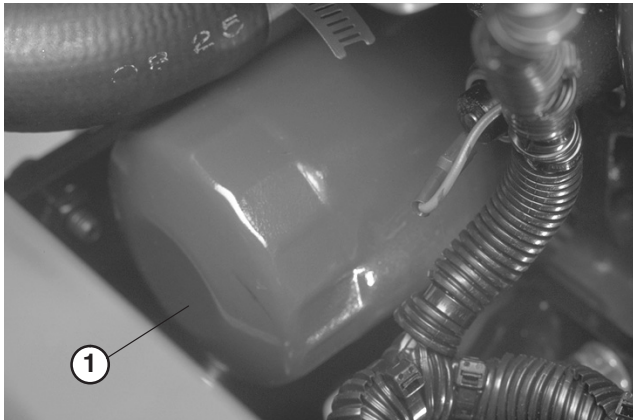

Figure 49
2. Remove oil filter (Fig. 49). Apply a light coat of clean oil to the new filter seal before screwing it on. **Do not over-tighten.**